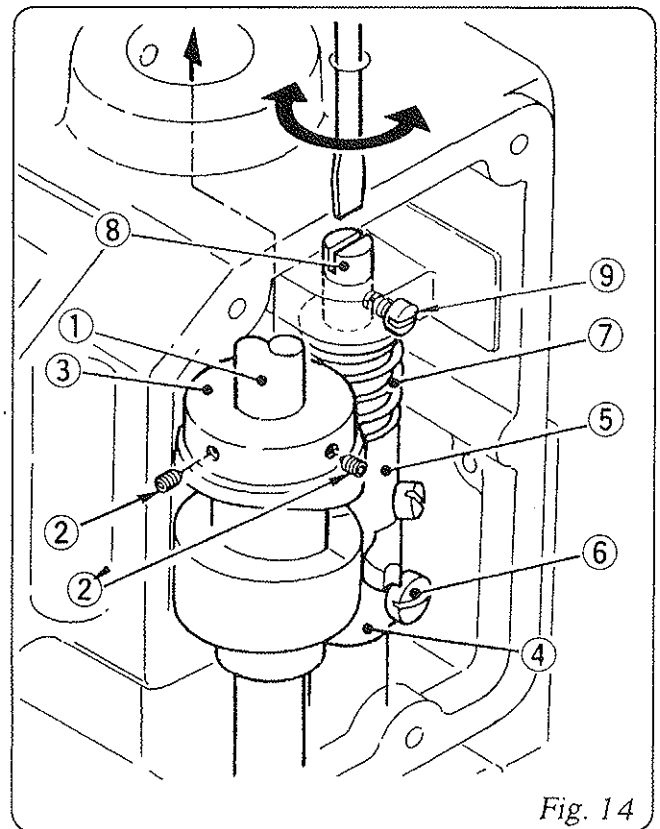

Fig. 14
Adjust Looper Drive Cam ③ When necessary as follows: (Refer to Fig.14.).
- a) Apply the Screws ② and ② on the taper of Main Shaft ①.
- b) Adjust Arm (B) ④, so that Looper Drive Cam ③ and Arm (A) ⑤ move smoothly. After adjusting, fix the Screw ⑥ tightly.
- c) The clearance between Looper Drive Cam ③ and Arm ⑤ is effected by Spring ⑦. Loosen Screw ⑨ and turn Spring Supporter ⑧ to adjust the pressure of Spring ⑦. After adjusting, tighten the Screw ⑨ to fasten Spring Supporter ⑧.
- ① Main Shaft 241102
- ② ②/Screw 15/64S28524
- ③ Looper Drive Cam 243012
- ④ Looper Rocker Shaft Arm (B) 243081
- ⑤ Looper Rocker Shaft Arm (A) 243071
- ⑥ Screw for Looper Rocker Shaft Arm (B) 11/64S40009
- ⑦ Spring 243131